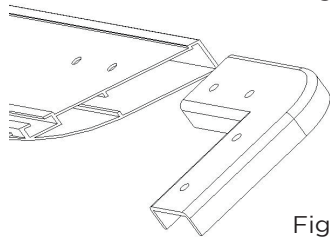

Fig 4
4. Insert one metal corner (E) into each end of the horizontal frame (A) (Fig. 4).